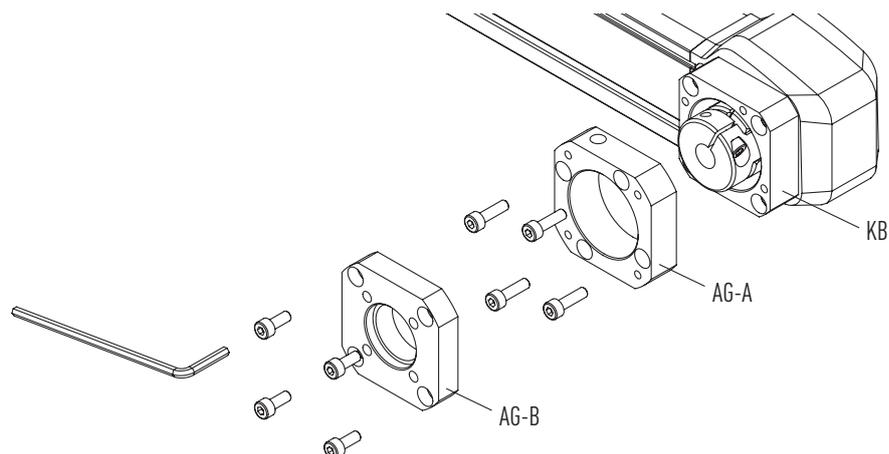

Fig. 6.57 Mounting the two-part gear adapter plate AG-A and AG-B – HM040B
- ▶ Attach the first part of the gear adapter plate (AG-A) so that it lies flat (see Fig. 6.57). In doing so, note the position of the hole for the clamping hub's clamping bolt.
- ▶ Attach the second part of the gear adapter plate (AG-B) onto the first piece (AG-A) (see Fig. 6.57).